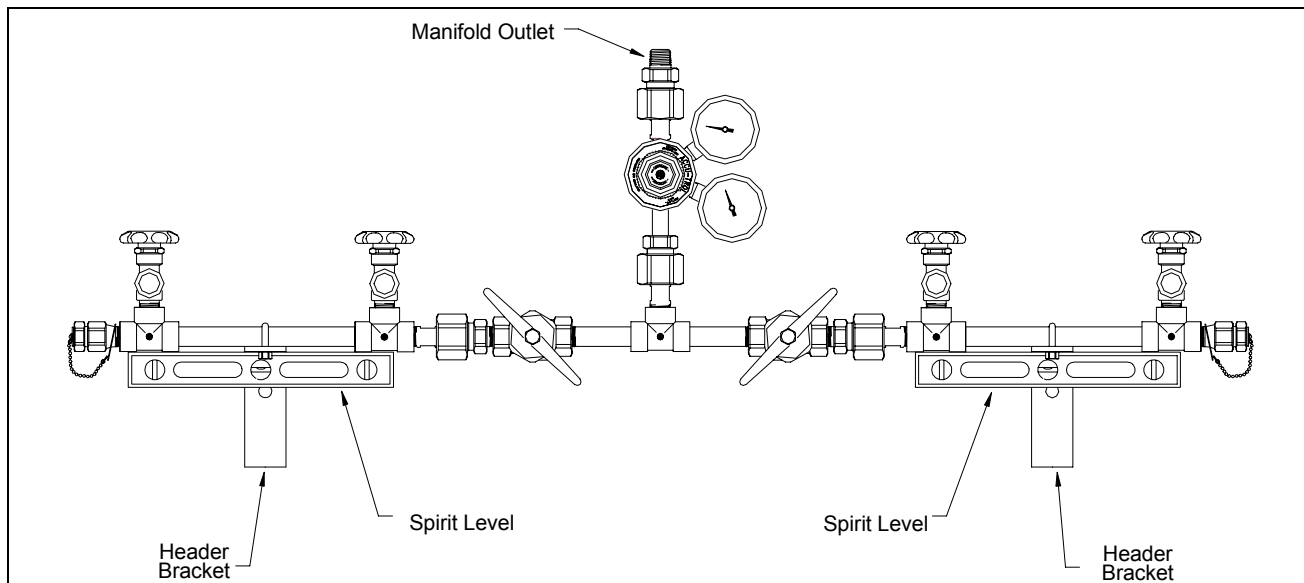

FIGURE 5
5. Mount the manifold by placing the header on the bracket. Fit the U-bolt over the header pipe and tighten the mounting nuts. (Figure 5)
6. Using a level, mark the placement of any additional mounting brackets while keeping the header on a horizontal plane. (Figure 5)